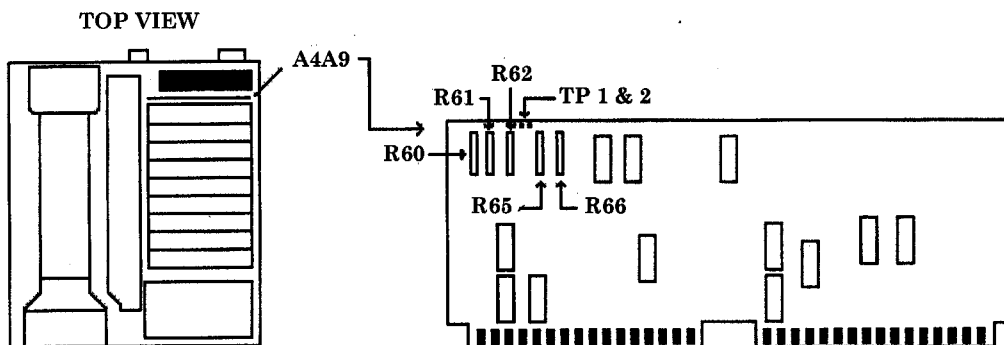

Figure 8. A4A9 board.
- (3) Adjust **DATA** knob to position trace at (or just below) reference level (top) graticule line.
- (4) Press TI keys as listed in (a) through (d) below:
- (5) Using TI **DATA** knob adjust marker down the positive going side of the displayed signal to the -3 dB point.
- (6) Adjust A4A9R60 (fig. 8) for a **MKR Δ** indication of 1.5 MHz while maintaining marker at the -3 dB point using TI **DATA** knob (R).
- (11) Adjust **DATA** knob to position trace at (or just below) reference level (top) graticule line.
- (12) Press TI keys as listed in (a) through (d) below:
- (13) Using TI **DATA** knob adjust marker down the positive going side of the displayed signal to the -3 dB point.
- (14) Adjust A4A9R61 (fig. 8) for a **MKR Δ** indication of 500 kHz while maintaining marker at the -3 dB point using TI **DATA** knob (R).
- (15) Press TI **MARKER Δ** key.
- (16) Using TI **DATA** knob, adjust marker to the -3 dB point on the negative going side of the displayed signal. There are now two markers; one on each side of the signal at the -3 dB points.
- (17) TI **MKR Δ** indication should be 1.00 ± 0.10 MHz.
- (18) Press TI keys as listed in (a) through (i) below:
- (19) Adjust **DATA** knob to position trace at (or just below) reference level (top) graticule line.
(20) Press TI keys as listed in (a) through (d) below:
(21) Adjust TI **DATA** knob to place marker down the positive going side of the displayed signal to the -3 dB point.
(22) Adjust A4A9R62 (fig. 8) for a **MKR Δ** indication of 150 kHz while maintaining marker at the -3 dB point using TI **DATA** knob (R).
(23) Press TI **MARKER Δ** key.
(24) Adjust TI **DATA** knob to set marker to the -3 dB point on the negative going side of the displayed signal. There are now two markers; one on each side of the signal at the -3 dB points.
(25) TI **MKR Δ** indication should be 300 ± 30.0 kHz.
(26) Press TI keys as listed in (a) through (i) below:
(27) Adjust **DATA** knob to position trace at (or just below) reference level (top) graticule line.
(28) Press TI keys as listed in (a) through (d) below:
(29) Adjust TI **DATA** knob to place marker down the positive going side of the displayed signal to the -3 dB point.
(30) Adjust A4A9R65 (fig. 8) for a **MKR Δ** indication of 5 kHz while maintaining marker at the -3 dB point using TI **DATA** knob (R).
(31) Press TI **MARKER Δ** key.
(32) Adjust TI **DATA** knob to set marker to the -3 dB point on the negative going side of the displayed signal. There are now two markers; one on each side of the signal at the -3 dB points.
- (33) TI **MKR Δ** indication should be 10 ± 1.0 kHz.
- (34) Press TI keys as listed in (a) through (i) below:
- (35) Adjust **DATA** knob to position trace at (or just below) reference level (top) graticule line.
- (36) Press TI keys as listed in (a) through (d) below: